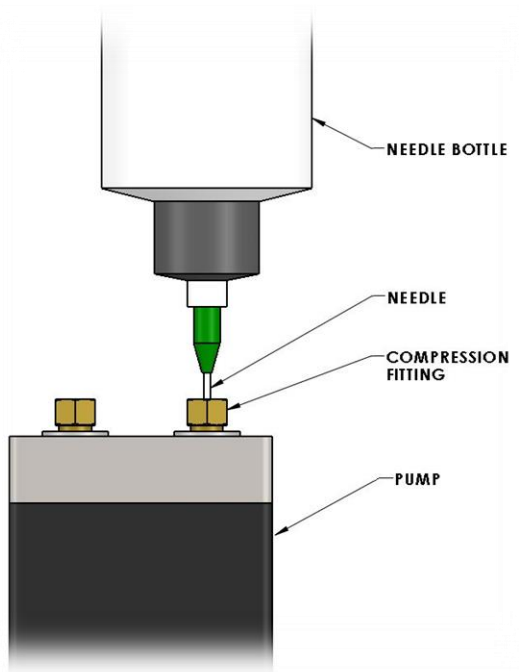

Figure 2: Pump Fill
8. Fully insert needle inside open pump fitting (Figure 2). Squeeze needle bottle to fill pump with Levitech hydraulic fluid until the fluid has reached the top of the fitting.